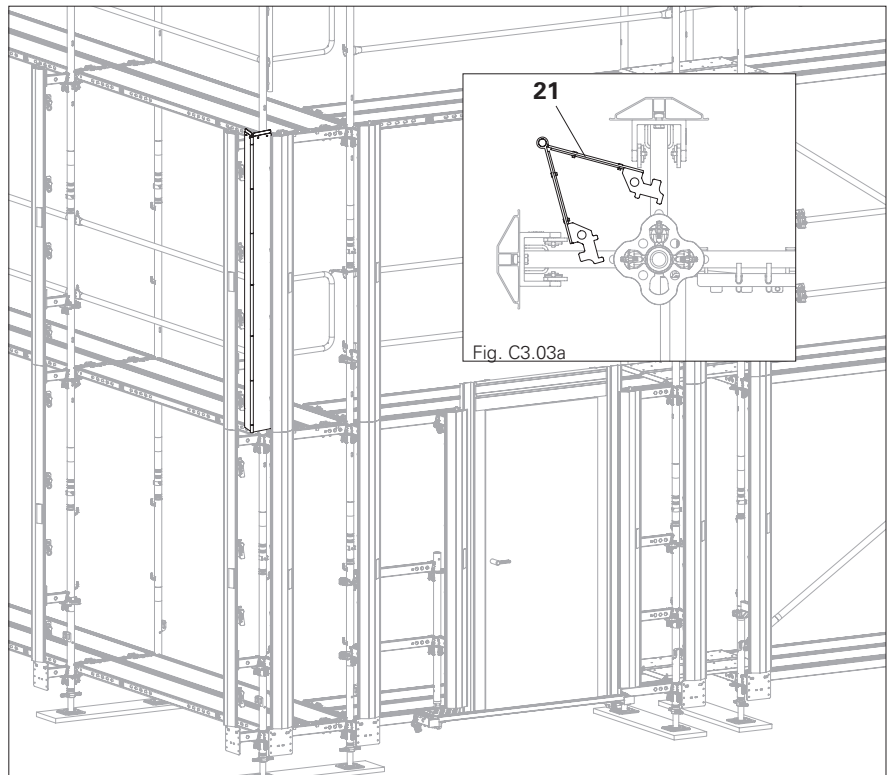

Fig. C3.03
1. Fold Multi-corner CPC 200 (**21**) behind the support rails. (Fig. C3.03 + Fig. C3.03a)